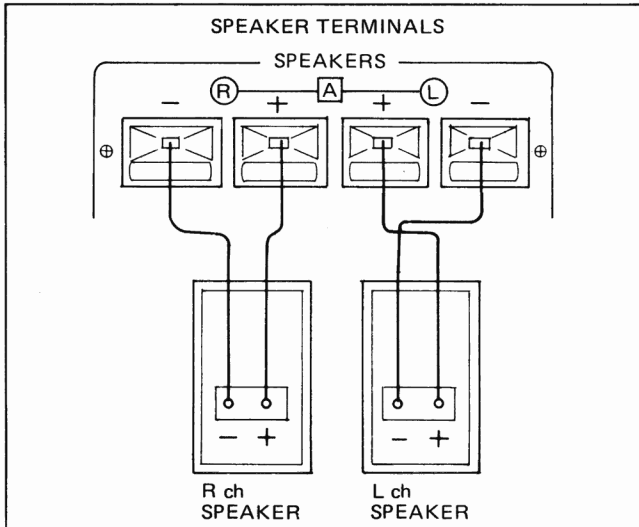

Fig. 1
As shown in Fig. 1, connect the terminals marked (L) to the L ch speaker systems. In the same way, connect the terminals marked (R) to the R ch speaker systems.
- (1) As illustrated in Fig. 1, the right side terminals are for Left channel, and left side terminals are for the Right channel. The red terminals are positive (+), and the black terminals are negative (-). Make sure the polarities of the terminals in this receiver correspond to those of the terminals in each speaker.
- (2) When 4-ohm speakers are connected to A and B, B and C or C and A terminals, and the speaker switches A and B, B and C or C and A are both depressed, the combined impedance of the speakers is only 2 ohms and so the protector lamp will come on. Avoid this arrangement. Be sure to connect speakers of more than 8 ohms when two sets of speakers are to be operated simultaneously.
- (3) If you push all three speaker buttons (A, B, C) at once, all the speaker indicators will be turned off and the speaker circuitry will be opened even if the equipment is properly connected.
- (4) Turn the speaker switches off when you are using the headphones only.